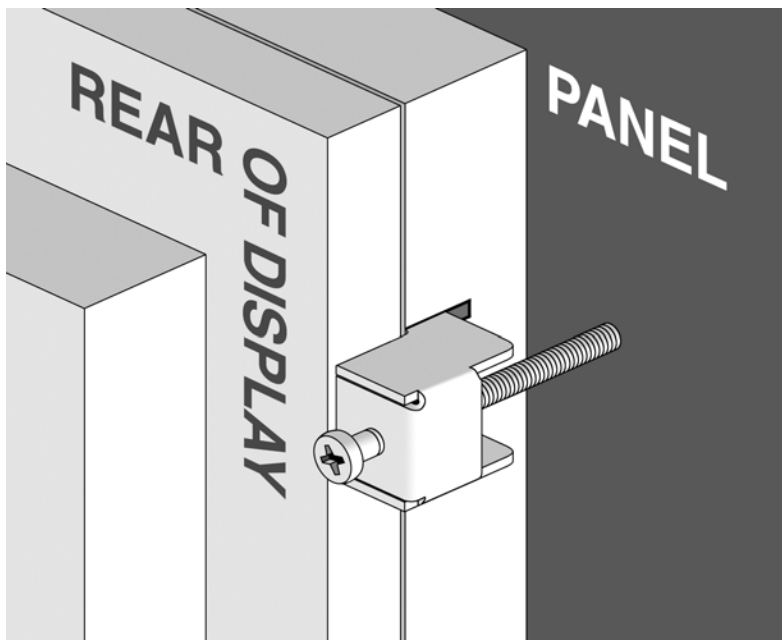

Figure 9: Tighten Mounting Clamp
3. Ensure that hooks on clamp butt against rear of slot as shown in Figure 9.